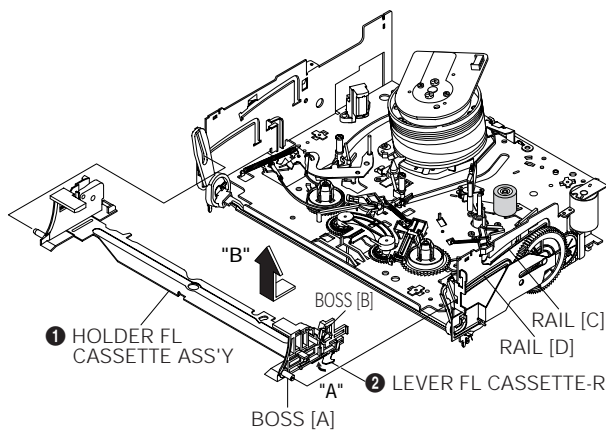

Fig. 4-6 Holder FL Cassette Ass'y Removal
2. Remove the Holder FL Cassette Ass'y. (Refer to Fig.4-6)
3. Release the Hook ❶ in the direction of arrow "A", pull out the Lever FL Arm Ass'y ❷ from the Boss of Main Base.
4. Remove the Lever FL Arm Ass'y ❷ in the direction of arrow "B".